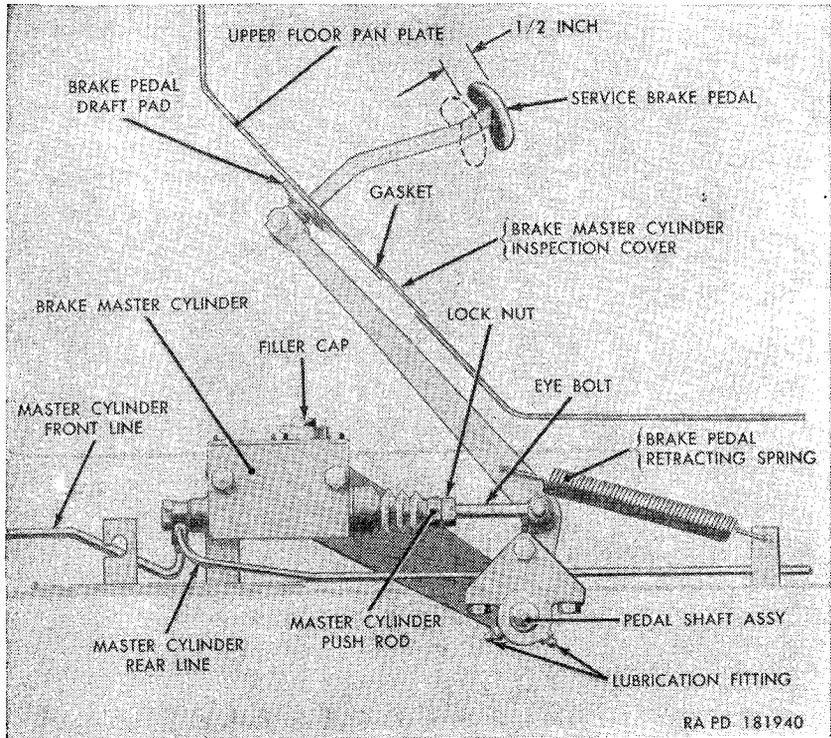

Figure 158. Service brake pedal and brake master cylinder linkage.
has two shoes. Adjustments are provided to compensate for brake lining wear. The service brake pedal (fig. 158) operates a piston in the master cylinder to force brake fluid through the brake lines to the wheel cylinders which actuate the brakes. The hand brake (fig. 163) is located at the rear of the transfer and is normally used to hold the vehicle in position when parked. The hand brake can also be used to stop the vehicle in cases of emergency or failure of the service brakes. The hand brake handle (W, fig. 12), for operating the brake, is located between the two front seats. Pulling up on the handle forces the brake shoes against the brake drum.
a. Service Brake Pedal Free Travel Adjustment (fig. 158). Correct service brake pedal free travel adjustment insures that the service brakes will be fully released, when the brake pedal has returned from the depressed position.
- (1) Loosen the steering gear mounting bolt (F). Loosen the bolt (Q) securing the front end of the master cylinder to the frame side rail. Raise the shield (P) to release the slotted ends of the shield from the loosened bolts and slide the shield toward the rear of the vehicle to remove.
- (2) Disconnect the stoplight switch cables number 75 at connectors (H and K).
- (3) Unscrew the nuts securing the master cylinder front and rear brake lines (J and B) to the outlet fitting (N) and pull the lines from the fitting. Place a suitable container under the fitting and allow the hydraulic brake fluid to drain into the container.
- (4) Remove the cotter pin and plain washer securing the master cylinder eyebolt to the stub shaft on the lower end of the brake pedal assembly (fig. 158) and slide the eyebolt from the shaft.
- (5) Work the boot (A) off the master cylinder end and remove the boot, master cylinder push rod, and eyebolt (fig. 158) as a unit.
- (6) Loosen the two machine bolts (Q) securing the tie bar (R) and master cylinder to the frame side rail (E), and pull the bolts out sufficiently to clear the side rail. Lower the master cylinder to the floor with the cylinder attached to the tie bar and with the rear end of the tie bar attached to the brake pedal shaft.
- (7) Pull the two machine bolts (Q), with lockwashers and plain washers, from the tie bar (R), and remove the master cylinder from the tie bar.
- (8) Unscrew and remove the stoplight switch (L) from the outlet fitting bolt (M). Unscrew and remove the bolt (M), outlet fitting (N), and two outlet fitting gaskets. Discard gaskets.
- (1) Install the stoplight switch (L) in the outlet fitting bolt (M). Slip a new outlet fitting gasket, the outlet fitting (N), and another new gasket over the end of the outlet fitting bolt in the order named. Insert the bolt into the front end of the master cylinder and tighten fingertight.
- (2) With the master cylinder push rod, eyebolt (fig. 158), and boot (A) assembled as a unit, insert the end of the push rod into the rear of the master cylinder and work the boot open end over the cylinder end.
- (3) Position the master cylinder, with attached parts, next to the tie bar (R) with the tie bar holes alined with the cylinder holes. Insert two $\frac{5}{16} \times 3$ bolts, with $\frac{5}{16}$ -inch lockwashers and plain washers, through the tie bar and into the cylinder holes.
- (4) Raise the master cylinder into position against the frame side rail (E) and thread the bolts into the nuts welded to the frame. Tighten the rear bolt securely but leave the front bolt loose.
- (5) Position the master cylinder eyebolt, over the stub shaft on the lower end of the brake pedal assembly (fig. 158), and secure with a $\frac{7}{16}$ -inch plain washer and $\frac{3}{32} \times \frac{3}{4}$ cotter pin.
- (6) Turn the outlet fitting (N) to mate with the ends of the two brake lines (B and J) and secure the lines to the fitting with the nut on the end of each line. Tighten the outlet fitting bolt (M).
- (7) Connect cables number 75 at connector (H and K).
- (8) Position the shield (P) under the cylinder and slide the slots in the shield brackets over the bolt (F) securing the steering gear to the frame side rail and the front bolt (Q) securing the tie rod and master cylinder to the frame. Tighten both bolts.
- (9) Fill the master cylinder with hydraulic brake fluid (*a* above), bleed the brakes (par. 237), check the brake pedal for free play and adjust if necessary (par. 233a).